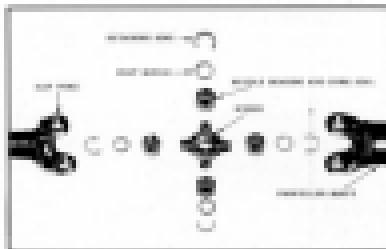

Fig. 160. Universal Joint Details (Lock Ring Transm. Retainer Type).
- The lock ring transmission retainer type (See Fig. 160). With this type propeller shaft the needle bearing assemblies are held in place by a lock ring which snaps into a machined groove in the needle bearing assembly.